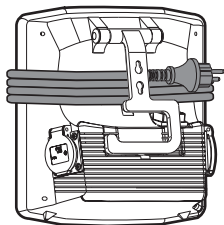

Fig. 12
- 4.2 Wrap the cable around the housing after use (see Fig 12).